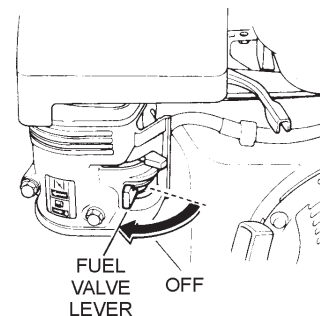

Figure 18. Fuel Valve Lever (OFF)
3. Place the **fuel shut-off lever** (Figure 18) in the “**OFF**” position.